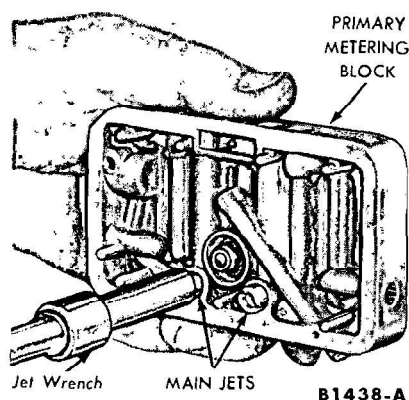

FIG. 11—Main Jet Removal or Installation—Holley 4-V
3. Using a jet wrench, remove the main jets (Fig. 11).
10. Using a jet wrench, install the specified jets in the metering block (Fig. 11).